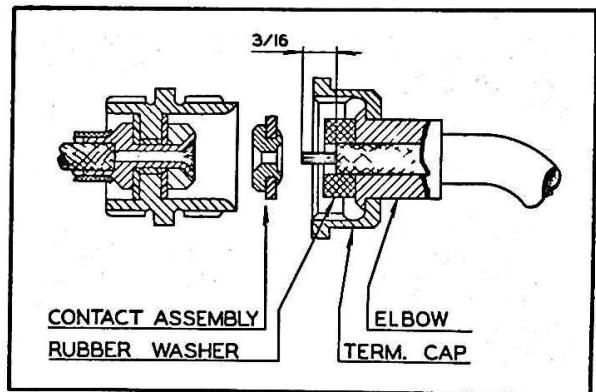

Figure 4 - Ground Wire Connections.
d. GROUND WIRE. - Unscrew the ground terminal cap and take out the brass contact, rubber washer, and ground wire shielding ferrule. (See figure 4.) Slip ferrule through the terminal cap and solder ground wire shielding to it. Strip the insulation from the end of the wire for a length of 3/16 inch. Insert wire through rubber washer and into the brass contact. Slide the rubber washer back over the ground wire to avoid the heat, and then solder the stripped end of the wire to the